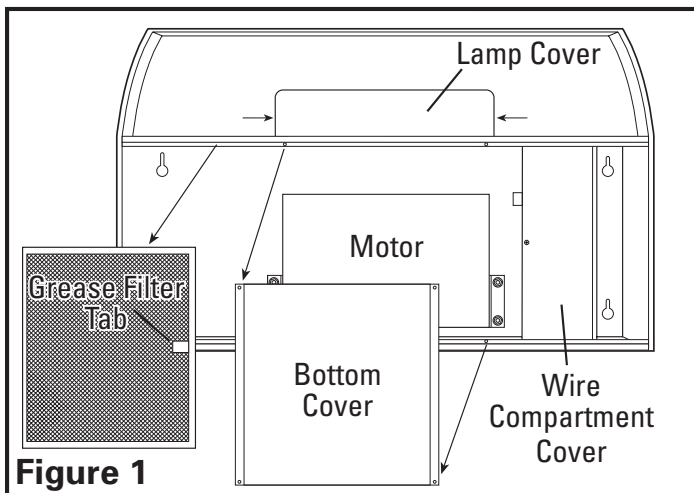

Figure 1
- Remove the following items from the hood and place in a safe place until needed (**Figure 1**):